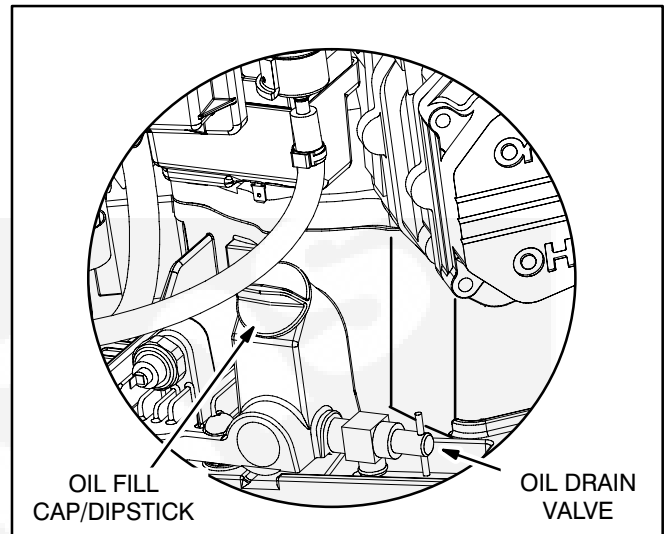

FIGURE 11. OIL FILL/DIPSTICK AND DRAIN VALVE
1. Unscrew the oil fill cap and wipe oil off the dipstick (Figure 11). Screw the cap back on, remove it and check the oil level on the dip stick.
2. Remove the oil fill cap, open the oil drain valve (Figure 11), let all oil drain from the engine and then close the drain valve.